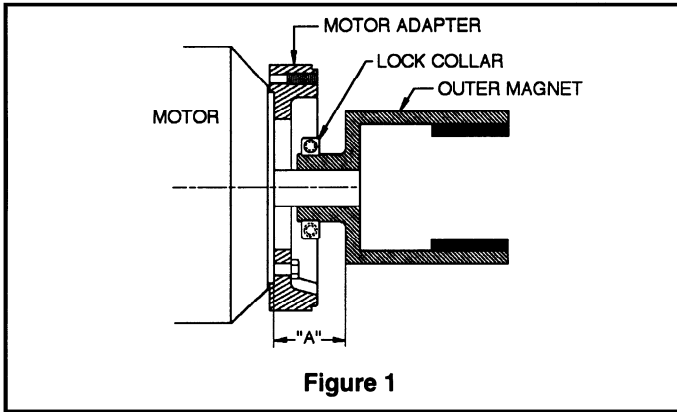

Figure 1
1. Install the magnet lockcollar (87) over the hub of the outer magnet (53). Slide the magnet ring over the motor shaft assembly to the Set & Clamp "A" dimension indicated in Figure 1 and Table 1. "A" = Motor bolt face to back of outer magnet.
2. Ensure that the shaft key (35) is in place, then tighten the two lockcollar capscrews to secure the outer magnet to the motor shaft.